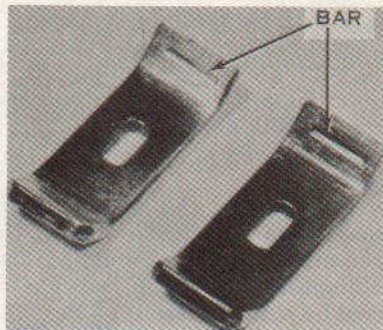

Fig. PR2-14—Bar is stamped across end of starter pawls which should be sharp.
The sharp edge should be filed to 27 degrees. The pawls may catch in the cup (13) if edge is too sharp or if cup surface is rough. Starter may slip if starter pawls are dull or if fiber washers (7) are oil soaked. Sharp edge of starter pawls are stamped with a bar (Fig. PR2-14). The 5/32-inch diameter nylon starter cord should be approximately 38 inches long.